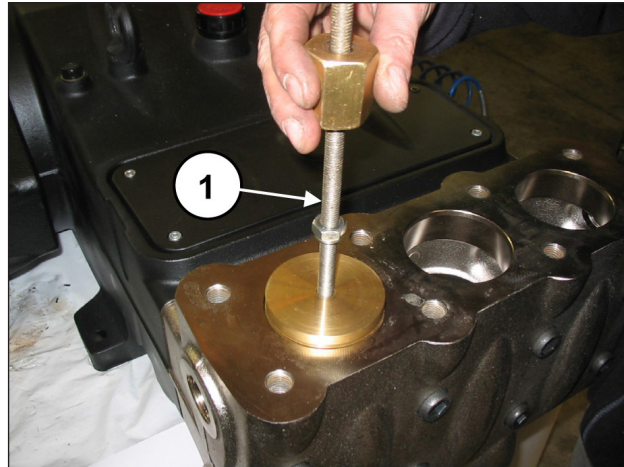

Fig. 101
Extract the valve plug with the use of an extractor hammer to be applied on the M10 hole of the valve plug (pos. ①, Fig. 101).